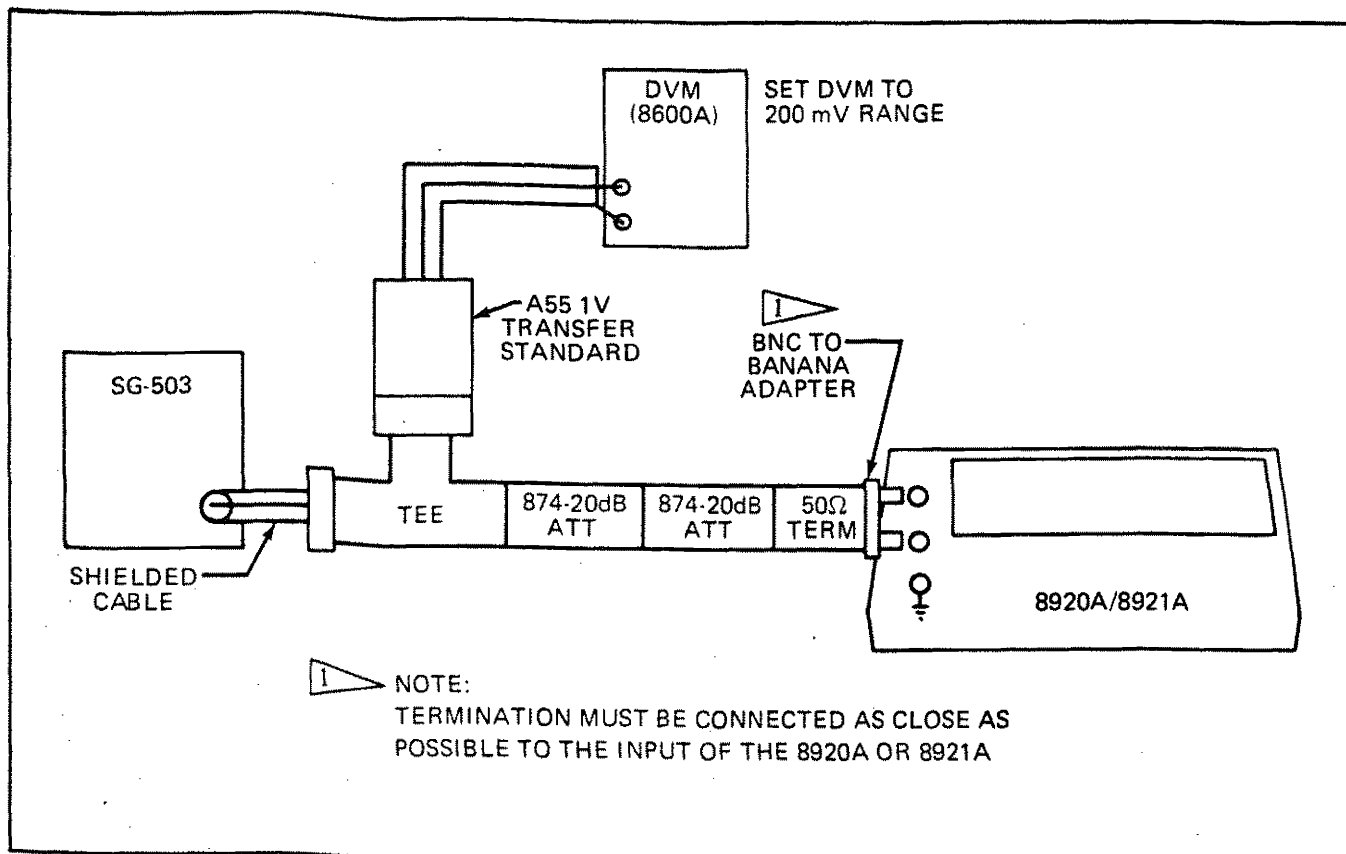

Figure 4-7. High Frequency Calibration Test Set-Up
1. For the ranges shown in Table 4-8, adjust the amplitude of the leveled generator at 50 kHz to establish a reference (refer to Figure 4-7, for the test setup). Use one 20 dB attenuator for 0.1V, two attenuators for 0.01V, and three attenuators for .001V terminated with 50 ohms. Take care not to overdrive the transfer standard.